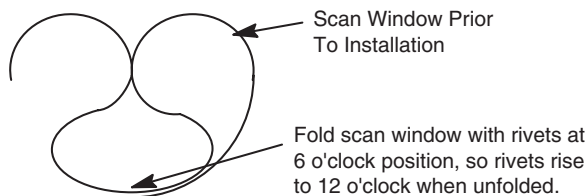
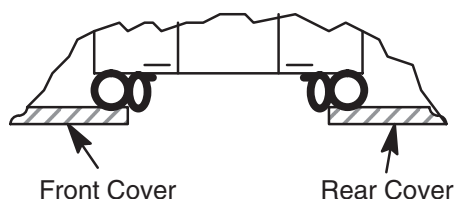

Figure A-24 Install Scan Window
Figure A-25 Scan Window Nested Between Front and Rear Cover
- 2.) Deform the scan window, as shown in Figure A-24, and nest the scan window at the bottom of the opening between the front and rear covers, (Figure A-25) with the rivets in the 6 o'clock position installation position. Remember the rivets must be in the 12 o'clock position when the mylar window is fully installed.